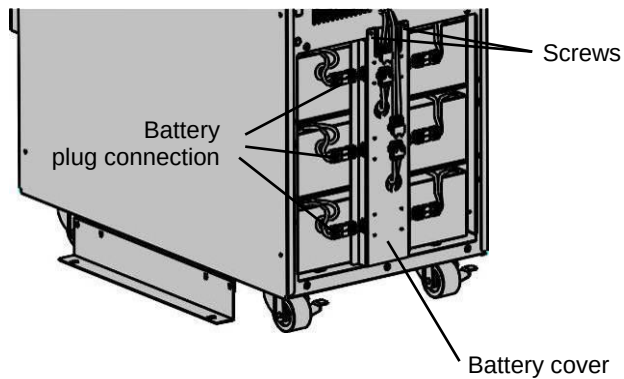

Figure 29: Remove the battery cover
11. Disconnect the internal battery plug connections of the individual battery module inserts and remove the battery cover by releasing both upper screws (see Figure 29).